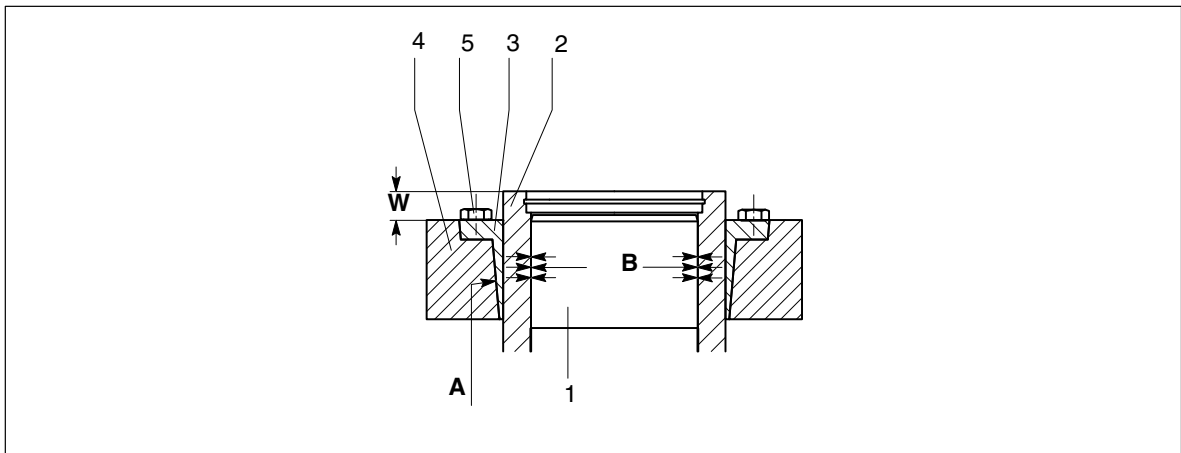

Fig. 64: Fitting the shrink disk
The conical surfaces of the inner and outer rings (positions 3 and 4, see figure 64) must be free of grease and oil.
- A thin layer of lubricant must be applied evenly to the conical surfaces of the inner and outer rings (positions 3 and 4, see figure 64).
- Provide the tensioning bolts (position 5, see figure 64) on the contact surface and on the thread with lubricant.